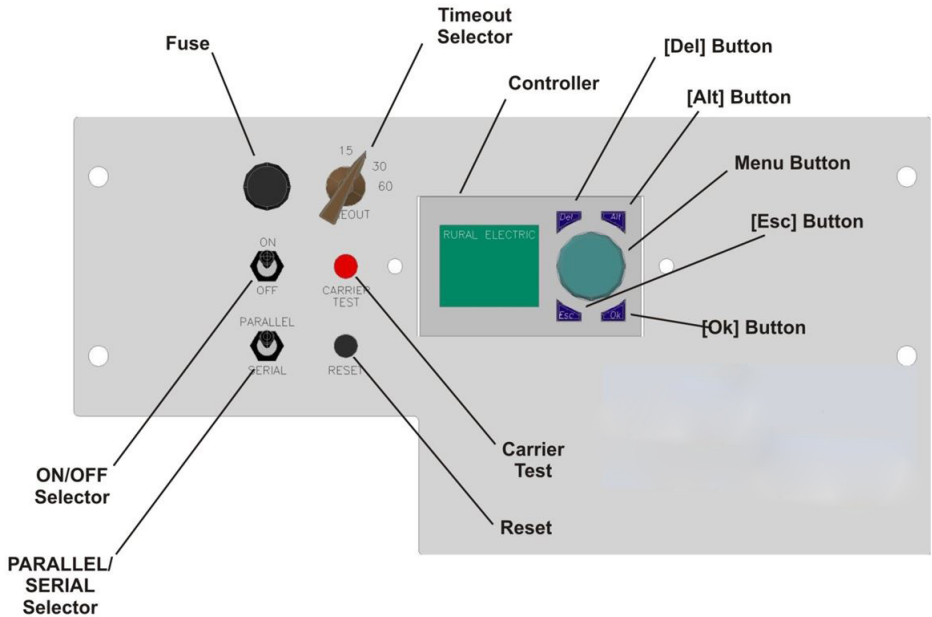

Figure 6. Controls Layout
2. This radio receiver is capable of a wide range of operating voltages from 12VDC, 24VDC or 90-264VAC, 60 or 50 Hz with no modifications through the use of a switching power supply. All input power is fused using a secondary panel mounted inline 5A fuse. Radio power, including the integrated heater, is controlled via a single on/off toggle switch on the face plate (see Figure 6).
The radio is configured with a raised faceplate where all controls and indicators are positioned as depicted in Figure 6. Each labeled item is described below:
2. When in operation the receiver awaits a squelch break on the tuned VHF frequency and begins counting "clicks" in a 5 second period to determine pilot intent. If the radio is keyed 3, 5, or 7 times the controller will process the click count and energize relay coils RA, R3, R5 and R7 depending upon the setting of the serial / parallel selector switch (see Figure 6 and Table 1). The pilot commanded output is held by the controller for a predetermined time interval (FAA standard is 15 minutes) that is adjustable by using the timeout selector knob (see Figure 6) to 15, 1, 30 or 60 minutes.